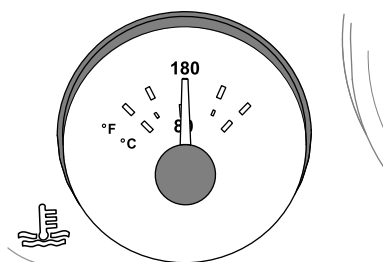

Figure 80
- E. Operate the engine for 5 minutes or until the coolant temperature gauge in the instrument cluster indicates 82°C (180°F), then stop the engine (Figure 80).